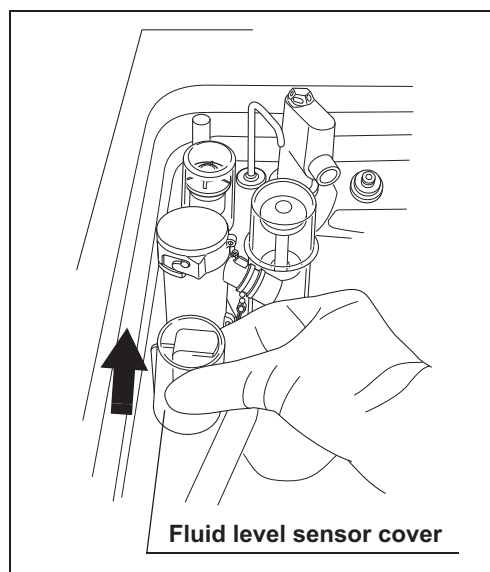

Figure 10.6
- 2 Lift the fluid level sensor cover up to remove as shown with the arrow in Figure 10.6.